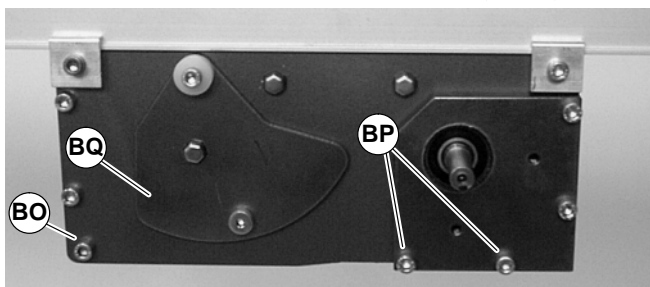

Figure 35
10. Tighten corner screws (BO of Figure 35) on each side of the drive module to 80 in-lb (9 Nm).
12. Re-install tension door screws (BP of Figure 35) on each side of the module. Tighten screws to 80 in-lb (9 Nm).